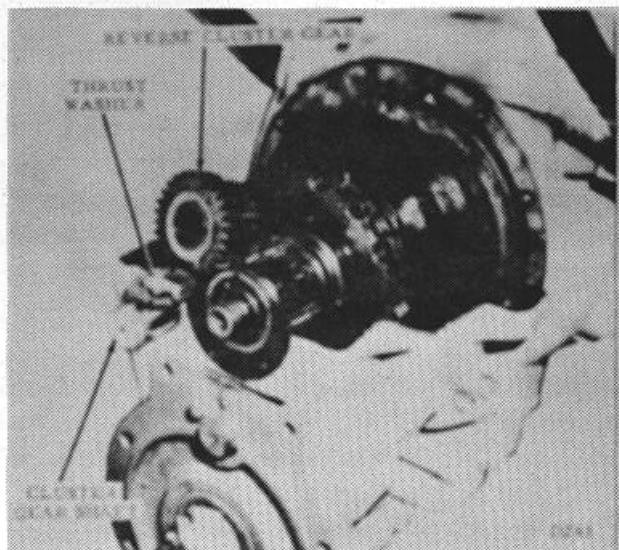

Figure 6.
**NOTE:** The reverse cluster gear can be removed at this time, without removing the clutch pack. (Fig. 6)